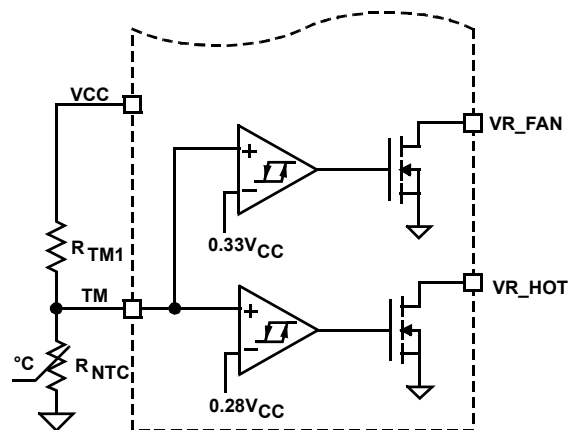
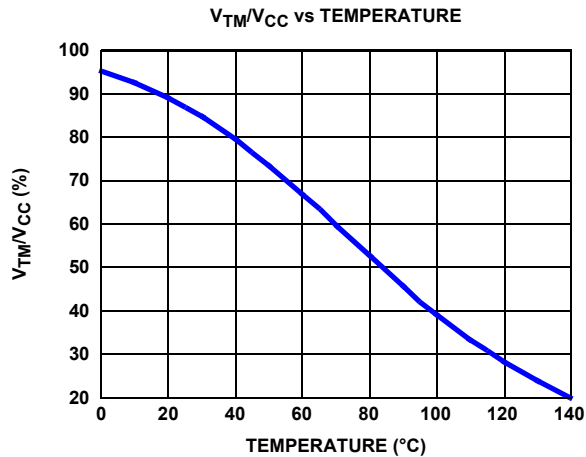

FIGURE 11. BLOCK DIAGRAM OF THERMAL MONITORING FUNCTION
FIGURE 12. THE RATIO OF TM VOLTAGE TO NTC TEMPERATURE WITH RECOMMENDED PARTS
The diagram of thermal monitoring function block is shown in Figure 11. One NTC resistor should be placed close to the power stage of the voltage regulator to sense the operational temperature, and one pull-up resistor is needed to form the voltage divider for the TM pin. As the temperature of the power stage increases, the resistance of the NTC will reduce, resulting in the reduced voltage at the TM pin. Figure 12 shows the TM voltage over the temperature for a typical design with a recommended 6.8k $\Omega$  NTC (P/N: NTHS0805N02N6801 from Vishay) and 1k $\Omega$  resistor  $R_{TM1}$ . We recommend using those resistors for the accurate temperature compensation.
Based on  $V_{CC}$  voltage, ISL6326 converts the TM pin voltage to a 6-bit TM digital signal for temperature compensation. With the non-linear A/D converter of ISL6326, the TM digital signal is linearly proportional to the NTC temperature. For accurate temperature compensation, the ratio of the TM voltage to the NTC temperature of the practical design should be similar to that in Figure 12.
1. Properly choose the voltage divider for the TM pin to match the TM voltage vs temperature curve with the recommended curve in Figure 12.